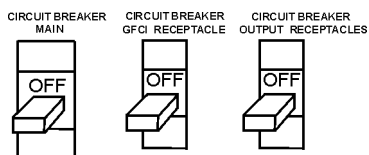

Figure 18. Main, GFCI and Load Circuit Breakers
1. Be sure to disconnect the electrical load and switch the *main*, *load* and *G.F.C.I.* circuit breakers (Figure 18) to the "OFF" position prior to starting the engine.